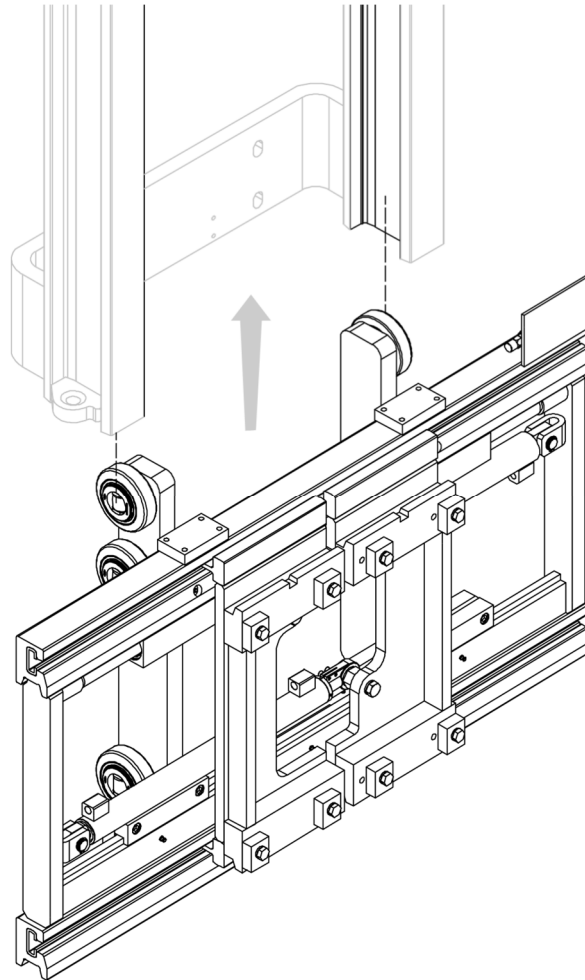

Figure 3
5. Install the equipment by inserting the bearings in the guides and fixing the mast chains into the holes of the brackets using the appropriate forks or according to the methods envisaged by the manufacturer of the mast (see *Figure 3*).